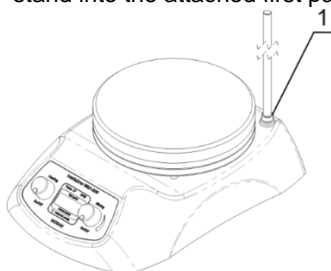

Figure 1. Stand installation
4.4. **SR-1 stand installation.** Remove the screw on the fixing socket at the stirrer back (fig. 1/1) and retain for future. Screw the end of the stand with the counter-nut into the fixing socket. Secure the stand with the counter-nut. Screw in the second part of the stand into the attached first part.